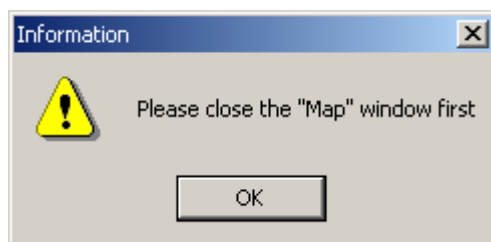

Figure 6-6 Incompatible prompt
- In a project, the **Map** and **Indoor Measurement** windows are incompatible. The Probe gives a prompt if the user tries to open these two windows simultaneously in the same project, as shown in Figure 6-6.